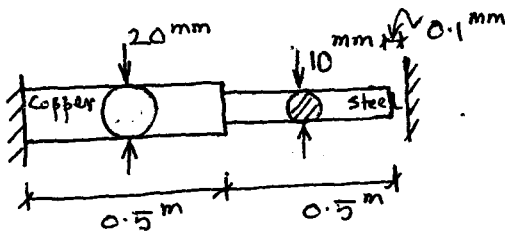

Figure Q.6
- Q.6. A copper rod and a steel rod are joined together as shown in Figure Q.6. There is a gap of 0.1mm between the rigid support and the end of the bar at 27°C. Determine the stresses in the bars when the temperature becomes 50°C. Assume $E_S = 200 \text{ GPa}$, $E_C = 120 \text{ GPa}$; $\alpha_S = 12 \times 10^{-6}/^\circ\text{C}$, $\alpha_C = 16 \times 10^{-6}/^\circ\text{C}$.